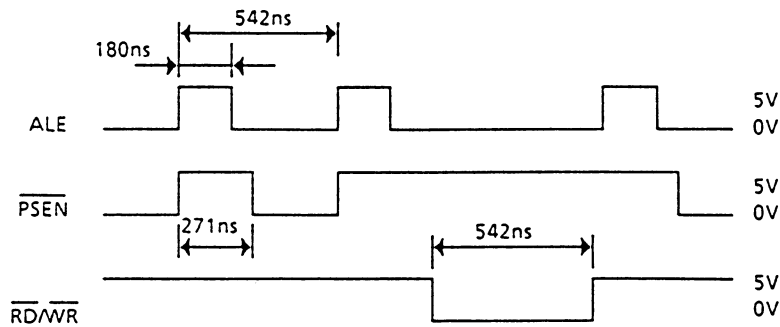

Figure E-6
• Yes Are ALE, $\overline{\text{PSEN}}$, $\overline{\text{RD}}$, $\overline{\text{WR}}$, signals as specified in Figure E-6?